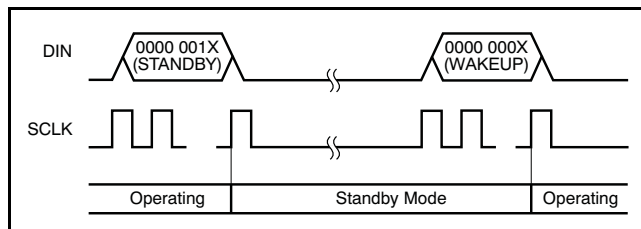

Figure 67. STANDBY Command Sequence
**Description:** This command places the ADS1282 into Standby mode. In Standby, the device enters a reduced power state where a low quiescent current remains to keep the register settings and SPI interface active. For complete device shutdown, take the PWDN pin low (register settings are not saved). To exit Standby mode, issue the WAKEUP command. The operation of Standby mode is shown in Figure 67.